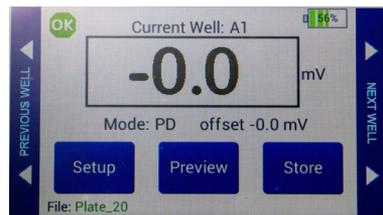

Fig. 53—(Right) The potential difference offset shows on the main screen under the reading.
- Press **Return** to navigate back to the main screen (Fig. 53).